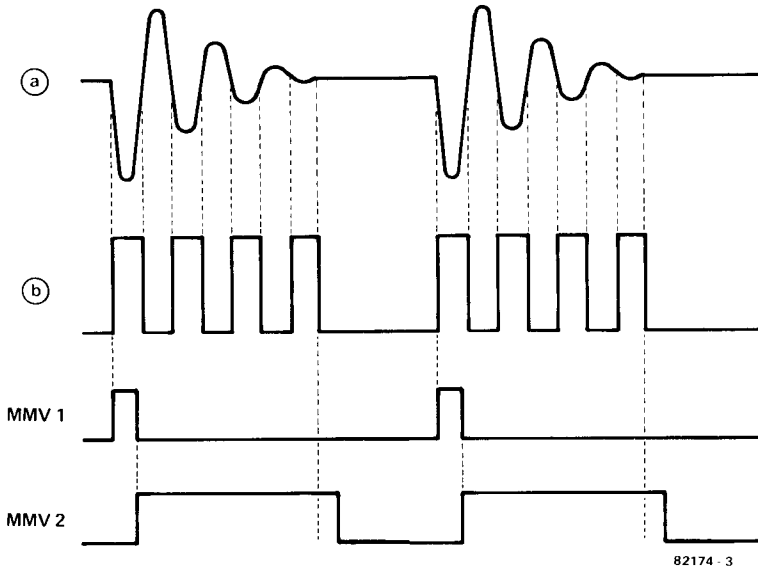

Figure 3. Signals at various points in the circuit:
block diagram (figure 1). The components required are basically only two ICs: IC1 contains four operational amplifiers, only three of which are utilized; IC2 provides the two monostables. The first operational amplifier serves as an amplifier for the drum signal from the pick-up (loudspeaker or microphone). The amplification is fixed at 10 x, by means of the negative feedback loop R1/R2. It can be varied by using a trimmer potentiometer instead of R2. The low-impedance input of the circuit is intended for connecting loudspeakers and low-impedance microphones (dynamic or electret with integral impedance converter). At the output of A1, two diodes (D1, D2) split the signal path: one for positive and one for negative half-waves. The negative half-waves are fed via D1 to another amplifier A2, which overdrives on account of its very high amplification (100 x) and delivers square-wave pulses at its output. At output TR these pulses have an amplitude of + 15 V and at output TR their amplitude is + 5 V. Thus suitable gate levels are provided for all common synthesizers. The fact that a whole train of pulses appears at the gate output for each drumbeat does not normally cause any problem, because the envelope generators of the synthesizer only trigger on the first leading edge and then allow their envelope to develop without being affected by subsequent triggering pulses. Should there be a problem, however, the signal at pin 9 or pin 13 of IC2 can also be used as the + 5 V gate pulse. As shown in the pulse diagram of figure 3, a longer pulse is present at these points, which only appears once per drumbeat. IC2 is a TTL dual-monostable. The first monostable triggers on the pulse from output TR + 5 V, which is connected to pin 10 of IC2. This first monostable generates a short pulse at its output pin 5 which turns on transistor T1. This causes capacitor C2 to discharge with the first half-wave of the drum signal. When this discharge pulse has ended, T1 turns off again; capacitor C2 is now ready for charging and accepts via diode D2 the peak voltage of the next positive half-wave from the output of the input amplifier. D2 prevents a discharge of the capacitor and the voltage is maintained until the next drumbeat. The high input impedance of the operational amplifier A3, which is utilized as a buffer for capacitor C2, caters for adequate stability of the storage stage. A buffered control voltage (CV) is present at the output of A3.